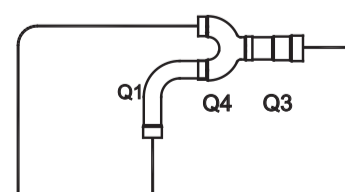

Fig.3
- As display in Fig.3, weld the branch pipe components with the field pipes.